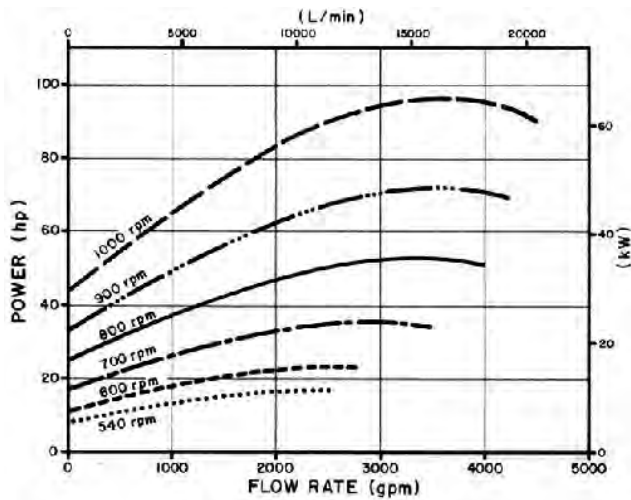

FIGURE 3. Power Requirements to Operate the Lloyd's Model RE-100 Pump at Various Flow Rates and Power Take-off Speeds.
**Power Requirements:** FIGURE 3 shows the power required to operate the Lloyd's model RE-100 pump at various power takeoff speeds and flow rates. The maximum power required at a 1000 rpm power take-off speed was 96 hp (72 kW).